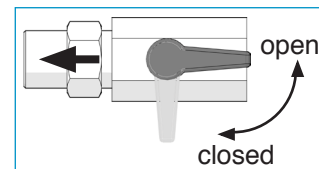

Fig. 1 Compressed air shut-off valve "OPEN"
- Open ⇨ in the direction of flow, see Fig. 1